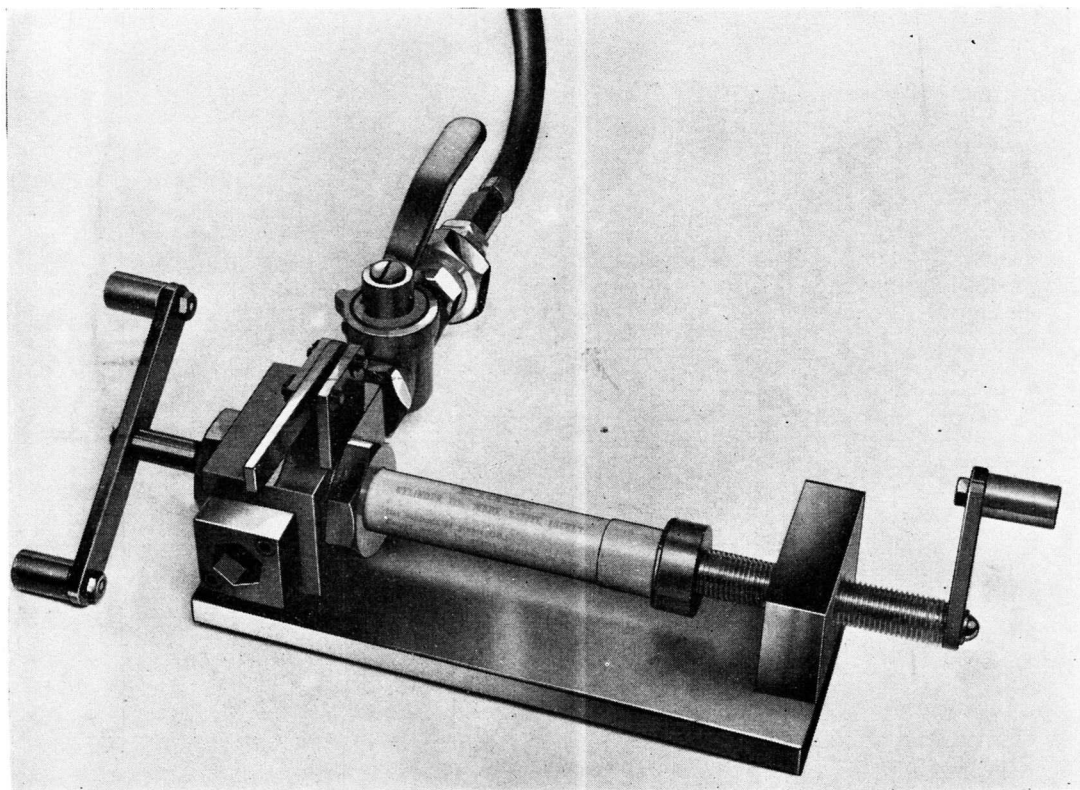

Fig. 4. Charging head with cylinder fitted
3. The charging head is a rig in which the cylinder is mounted while it is being charged. It is illustrated in fig. 4 and 5. The entry of the CO₂ from the bulk supply cylinder is controlled by a semi-rotary cock mounted at the back of the charging head. The gas enters the inlet, passes along the passage into which the relief valve opens, round the annular passage on the filling spindle and through an aperture on the wall of the spindle into the chamber in which the cylinder head is fitted.